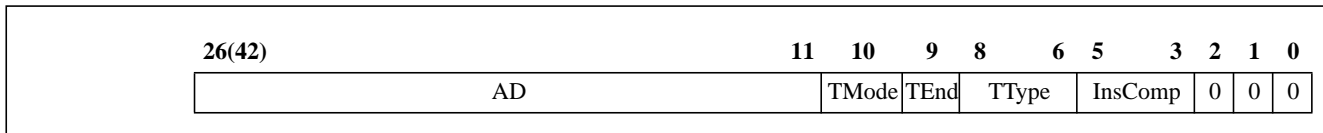
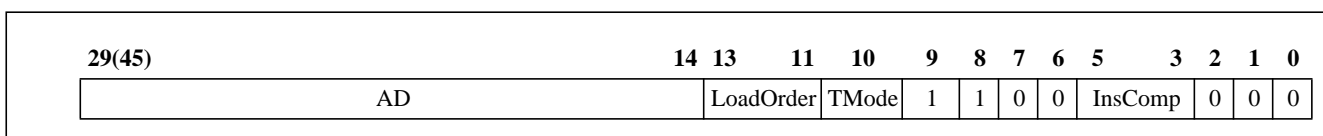

Figure 2-3 TF3 (Trace Format 3 Single-Pipe)
Figure 2-4 TF4 (Trace Format 4 Single-Pipe)
When $PDO_TType[2:0]$ is not **NT** (000) and $PDO_Overflow$ is set to 0, all trace information needs to be captured. This is the TF3 format shown in Figure 2-3. The $PDO_LoadOrder[2:0]$ signal is an exception in that it only needs to be captured on the last cycle of a **Data Transmission** transaction (**DT** on the $PDO_TType[2:0]$ signal). Hence, a slight distinction is made between this format TF3 (which excludes the $PDO_LoadOrder[2:0]$ value, see Figure 2-3), and the format TF4 (which includes the $PDO_LoadOrder[2:0]$ value, see Figure 2-4).
The TF4 format is shown in Figure 2-4. TF4 covers the case when $PDO_TType[2:0]$ is set to **DT** and PDO_TEnd is set to 1, that is, the last cycle of the current data transmission. This is shown in Figure 2-4, where the pattern on bits [9:6] distinguishes TF4 from TF3. Bits [8:6] are equal to 001_2 for a $PDO_TType[2:0]$ value of **DT** and bit 9 has a value of 1 for PDO_TEnd .